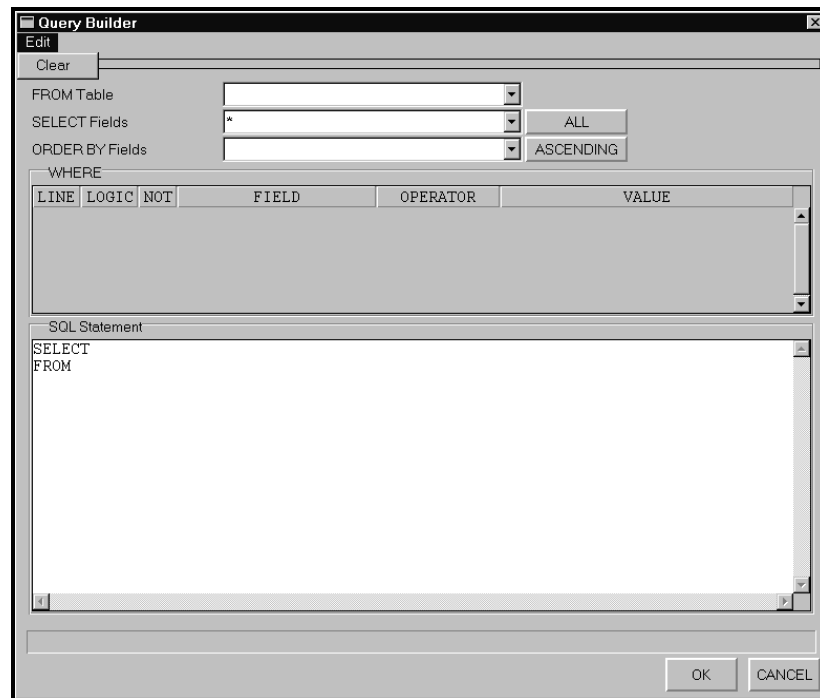

Figure 3-116. Query Builder Window
- Query Builder: SQL queries can be intimidating. To help simplify the process of writing basic queries the Query Builder tool can be used. As seen in Figure 3-116, there is one choice from the Edit menu, Clear. This clears the SQL area of the window without disturbing the choices above. The Query Builder window has selections for the SQL commands *FROM*, *SELECT*, *WHERE*, and *ORDER BY*.
In Figure 3-116 we can see that the selections made in the menus in the top portion of the window correspond to the logic in the SQL area at the bottom of the window. Changes made in the menus will dynamically appear in the SQL area. You can always place the cursor in the SQL area and type or delete text manually. After the query is completed, click on OK to load the query into the Queries window. CANCEL exits Query Builder, remembering your work until you exit the Queries window. That is, if you open Query Builder again before exiting the Queries window, your work will still appear in the window. Exiting and reopening the Queries window will reset the Query Builder to defaults.